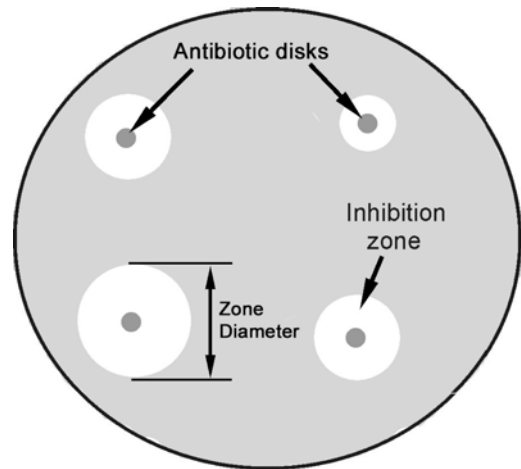

Figure 3. Kirby -Bauer antibiotic sensitivity tests.
The traditional method used to screen bacteria for antibiotic susceptibility is called the **Kirby-Bauer method**. In this method, the bacteria are swabbed over an agar medium in a plate. Next, small paper disks, each impregnated with a different antibiotic, are aseptically applied to surface of the plate (see Figure 3). During the incubation period, the antibiotics diffuse into the agar medium and, if effective, inhibit the growth of the organism in a zone around the disk.
The results for a particular agent are determined by measuring the diameter of the zone surrounding the disk (see Figure 3). For each type of antibiotic, the zone must be equal to or larger than a certain minimum diameter stated for that antibiotic (Table 1). For example, susceptibility to bacitracin would be indicated when the diameter of the inhibition zone around the disk is EQUAL TO OR GREATER THAN 13 mm. A zone smaller than 13 mm would indicate that bacitracin is not clinically effective against the test organism.
3. Lay an Antibiotic Gradient Strip in the center of the plate, as shown in Figure 3.
4. Using flame-sterilized forceps, place 4 different antibiotic susceptibility disks symmetrically on the plate, roughly as shown in Figures 3 and 4.